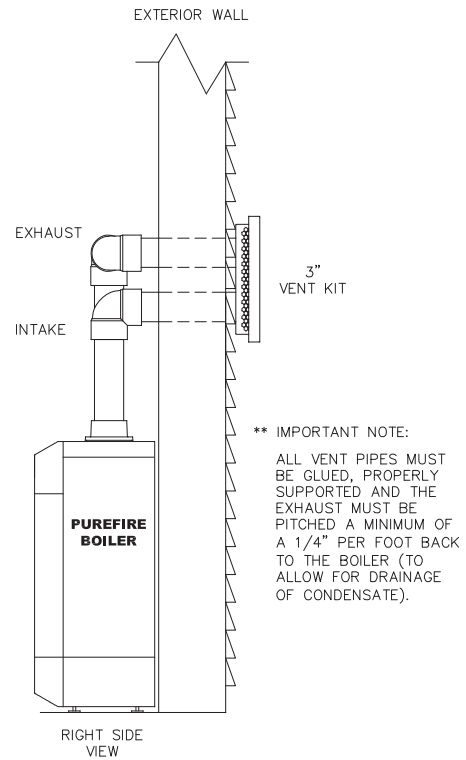

Figure 3.5: Optional Stainless Steel Vent Kit Installation
- d. Figures 3.5 and 3.6 show approved sidewall vent configurations using optional vent termination kits.